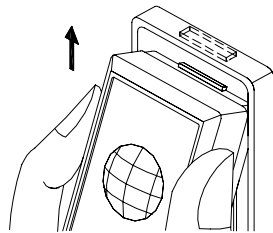
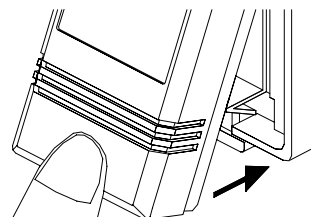

fig 4
fig 5
- ③ Install the transmitter case: hold the top portion of transmitter case with left hand (as fig 4) make About 10 degrees slant with wall cap then push to upper. When the protrusion transmitter case is Come into the concavity of wall cap with right hand (as fig 5). Upon hearing "KA", the installation Is finished.